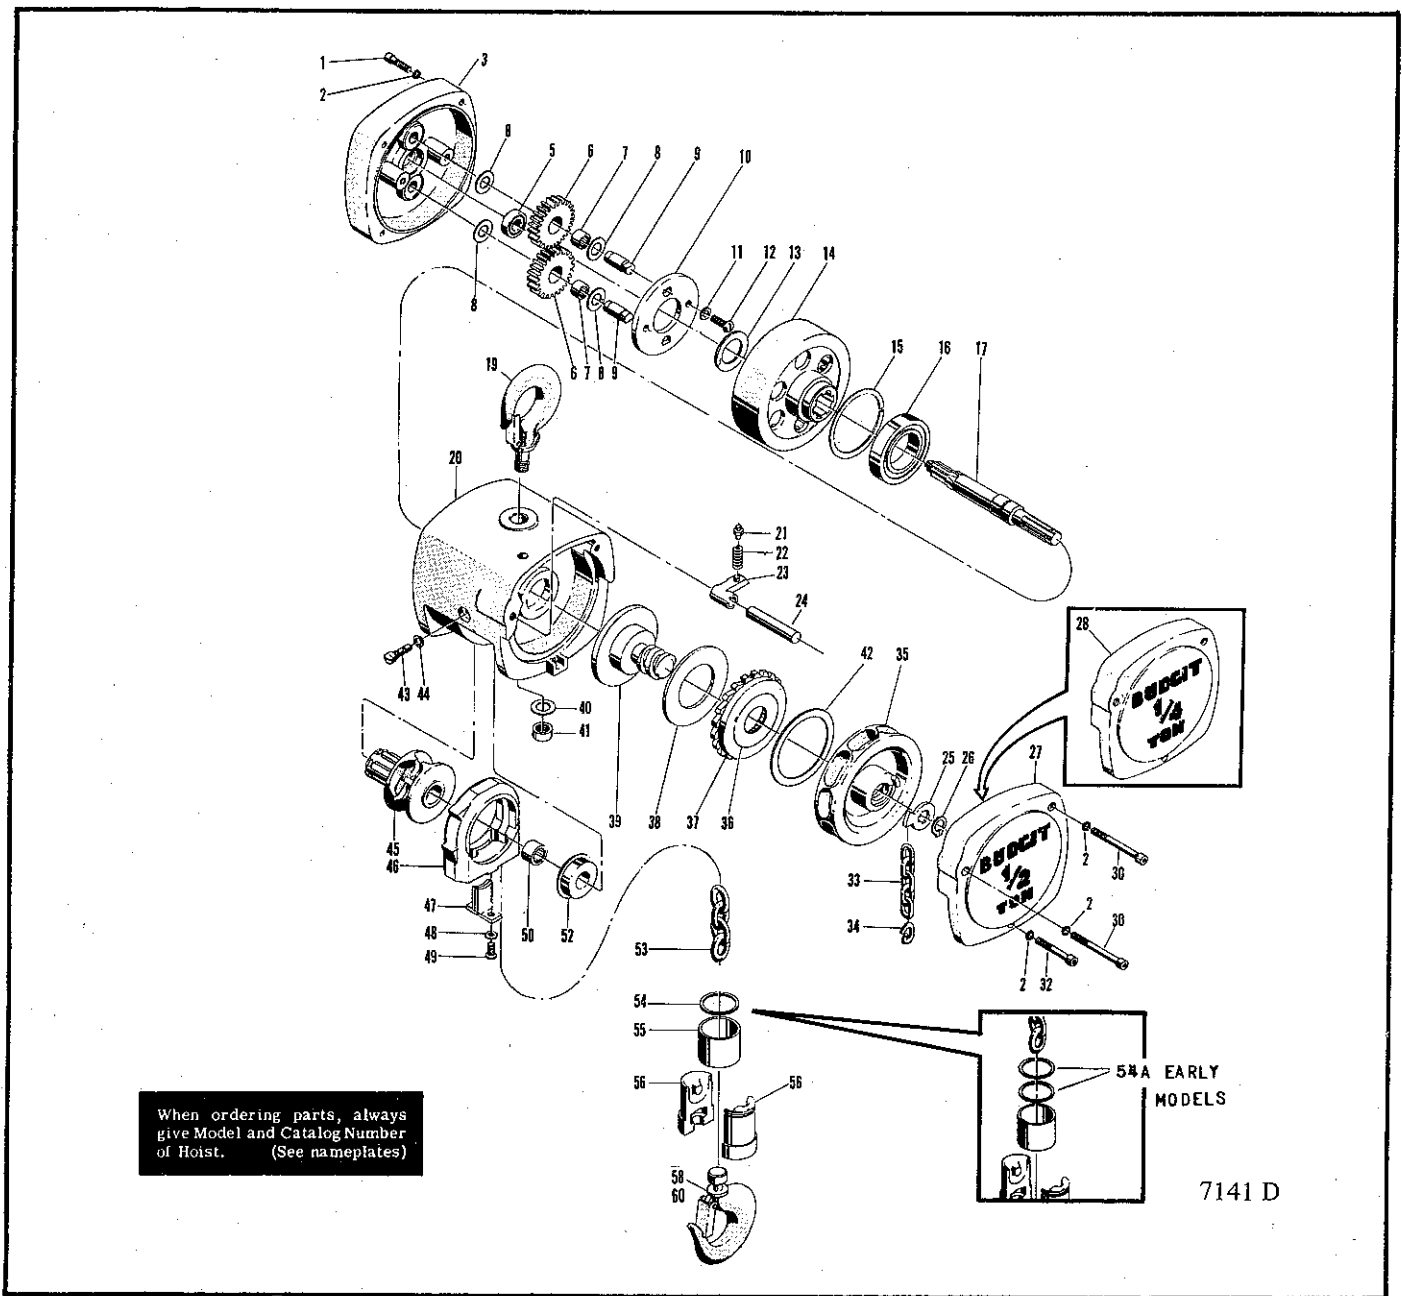
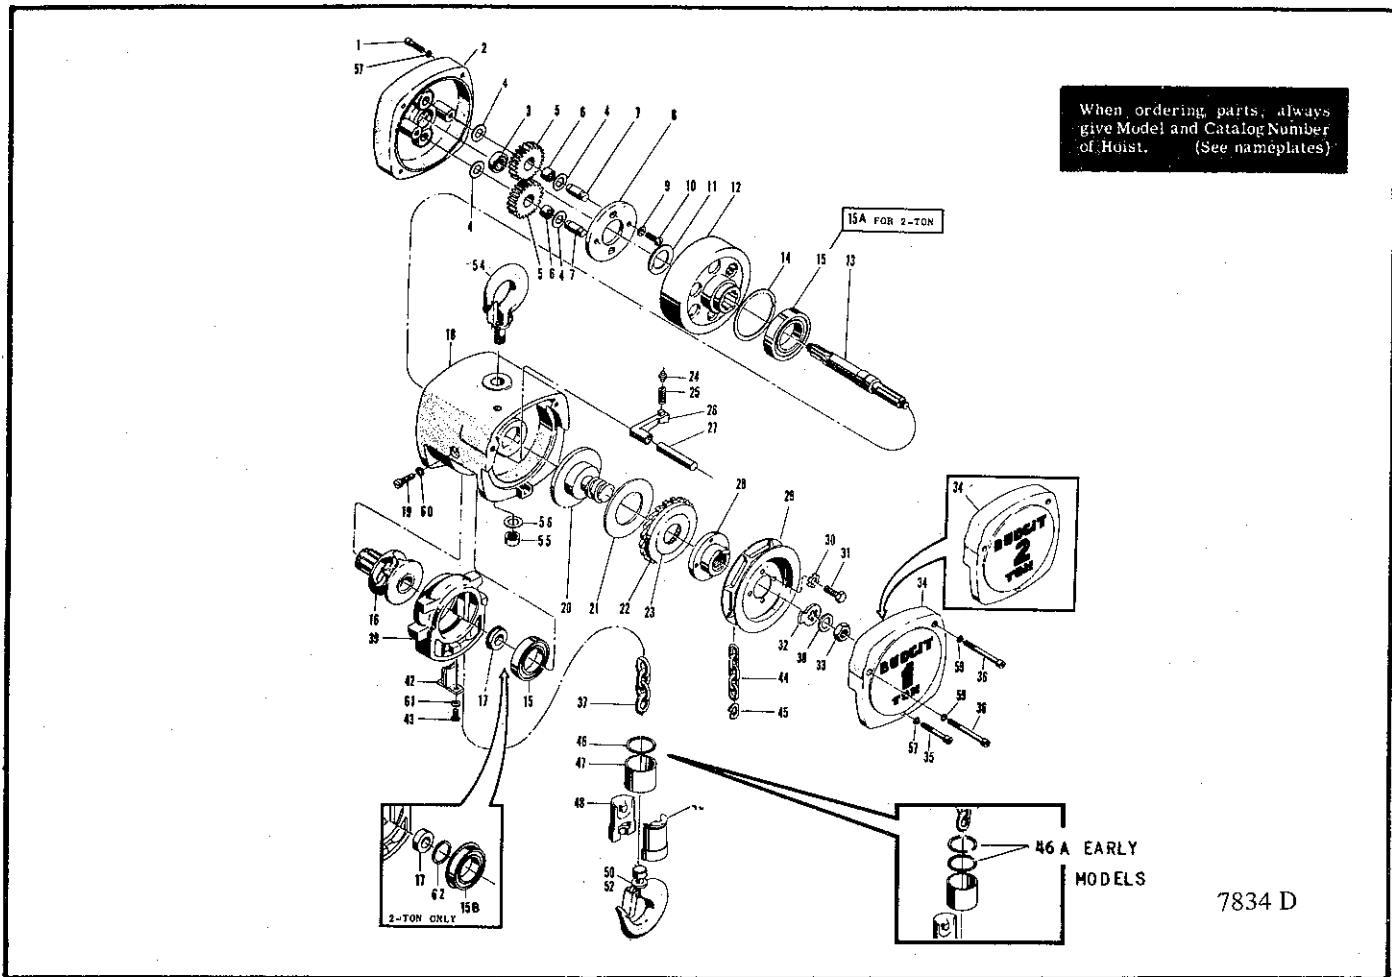

FIG. 1. EXPLODED VIEW OF 1/4 & 1/2 TON CAPACITY CHAIN HOISTS
FIG. 2 EXPLODED VIEW OF 1 & 2 TON CAPACITY CHAIN HOISTS
2. Remove three screws (See Fig. 1 or Fig. 2) and lockwashers holding chain wheel guide cover. Remove chain wheel guide cover by placing hands in position shown in Fig. A and lifting straight upward. Cover will lift off. Slip hand chain off hand chain wheel.
(Refer to Fig. 1 & Fig. 2)
1. On one-ton hoists, the pinion shaft bearing **MUST** be inserted in the center bore of the hoist frame from the **INSIDE** of the frame as shown by the guide lines on Fig. 2. **DO NOT DROP THIS BEARING INTO ITS FRAME BORE FROM THE OUTSIDE, OR HOIST WILL NOT**
2. For all capacity hoists, install pocket wheel bearing (52, Fig. 1 or 15 or 15-B, Fig. 2) on the inside of the frame as shown by guide lines on the Figures.
3. Insert load chain guide in frame cavity and insert pocket wheel from outside of frame. Install the other pocket wheel bearing (16, Fig. 1 or 15 or 15-A, Fig. 2) in outside of frame and use retaining ring to secure the bearing.
10. Load chain is now installed in the load chain opening OPPOSITE the tail chain anchor. The first link must be installed in a VERTICAL (See Fig. D) position and the horizontal links must be positioned so their welds are AWAY from the pocket wheel pockets. If welds fall in the wheel pockets, action will be bumpy and chain will tend to gag. With first link inserted as described, turn hand chain wheel in raise direction until load chain catches. When first link appears in other chain opening, guide it out with a wire or other probe to prevent it jamming. Secure this end of the load chain with tail chain anchor pin (43, Fig. 1 or 19, Fig. 2).